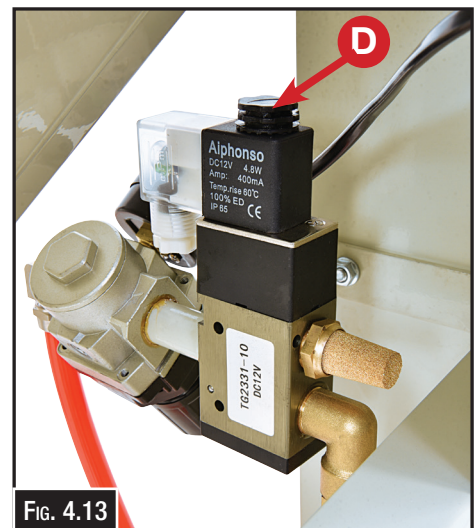

FIG. 4.13
15. At the air pressure gauge assembly, remove the plastic finger screw (D) from the valve stem. Attach the solenoid—hanging from the existing electrical lead on the left-hand side of the cabinet—onto the valve stem, then refit and tighten the plastic finger screw securely. Note: The solenoid will only fit in one orientation. It should be positioned at a 90° angle, aligned with the small locating dimples on the valve, before tightening the screw. (Fig. 4.13)